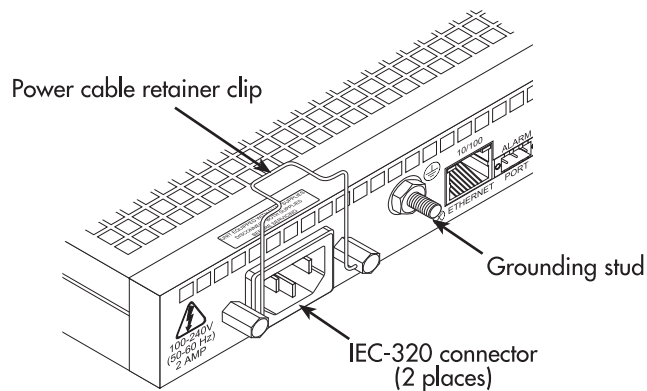

Figure 5. IEC-320 connector and grounding stud locations
1. Install a power cable into an IEC-320 connector (see figure 5).